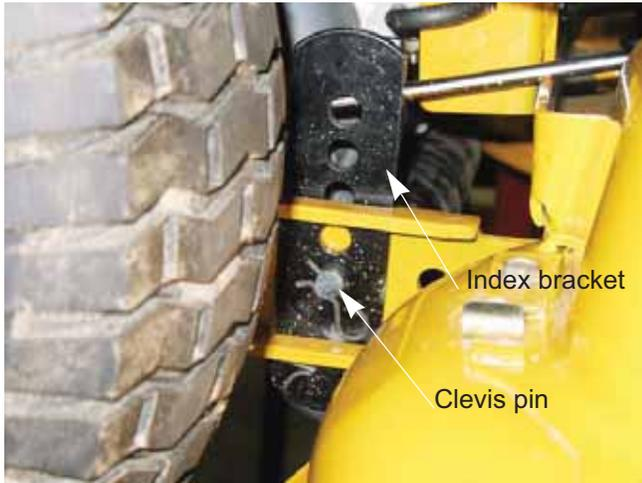

Figure 8.23
- A While supporting the roller assembly, remove clevis pin and withdraw the clevis pins from both of the roller index brackets. See Figure 8.23.